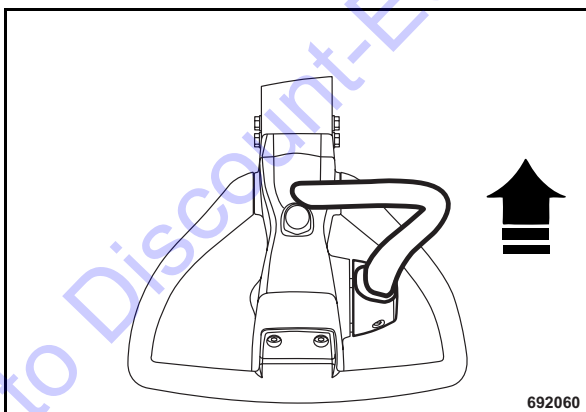

Fig. 75
- Hold the travel lever in forward position (Fig. 75).